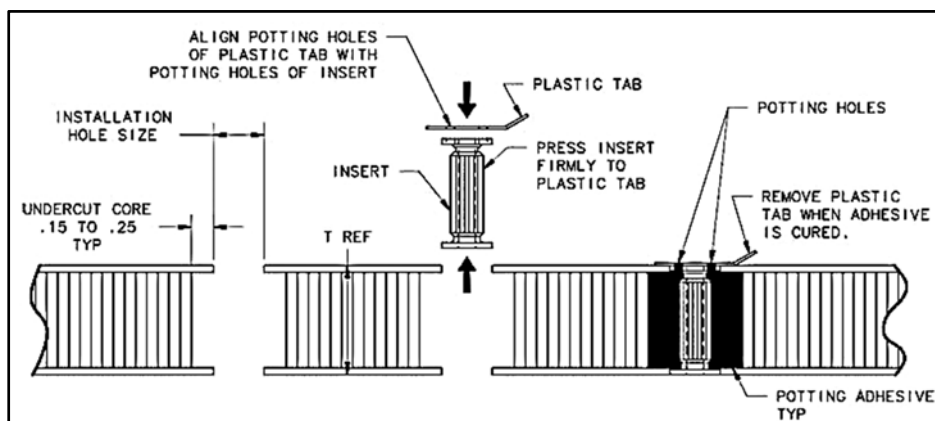

Figure 3. NAS1834 Potted in Insert, used with composite panel of 0.25 inches or more.
5. Prep holes, use inserts as required, and pot accordingly (Figure 3).